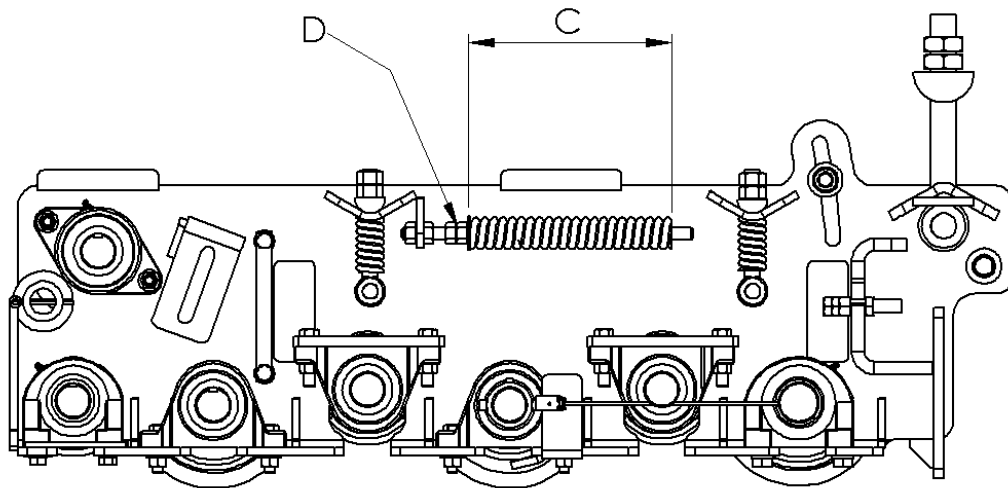

Figure 7-25: Rock Trip Spring Adjustment
3. Adjust nut (D), shown in Figure 7-25, so dimension (C) is 8.5 inches (22 cm).